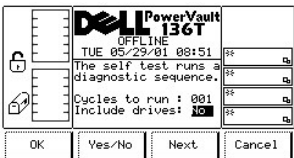

Figure 114. Service > Library > Exercise > Self Test > Include Drives Dialog
- 1 If the button beneath the **Next** softkey is pressed, the next field in the list is made the active field. Refer to Figure 114.